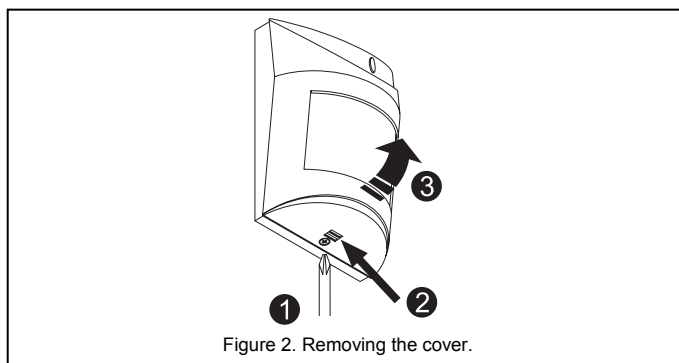

Figure 2. Removing the cover.
1. Open the housing as shown on Fig. 2.